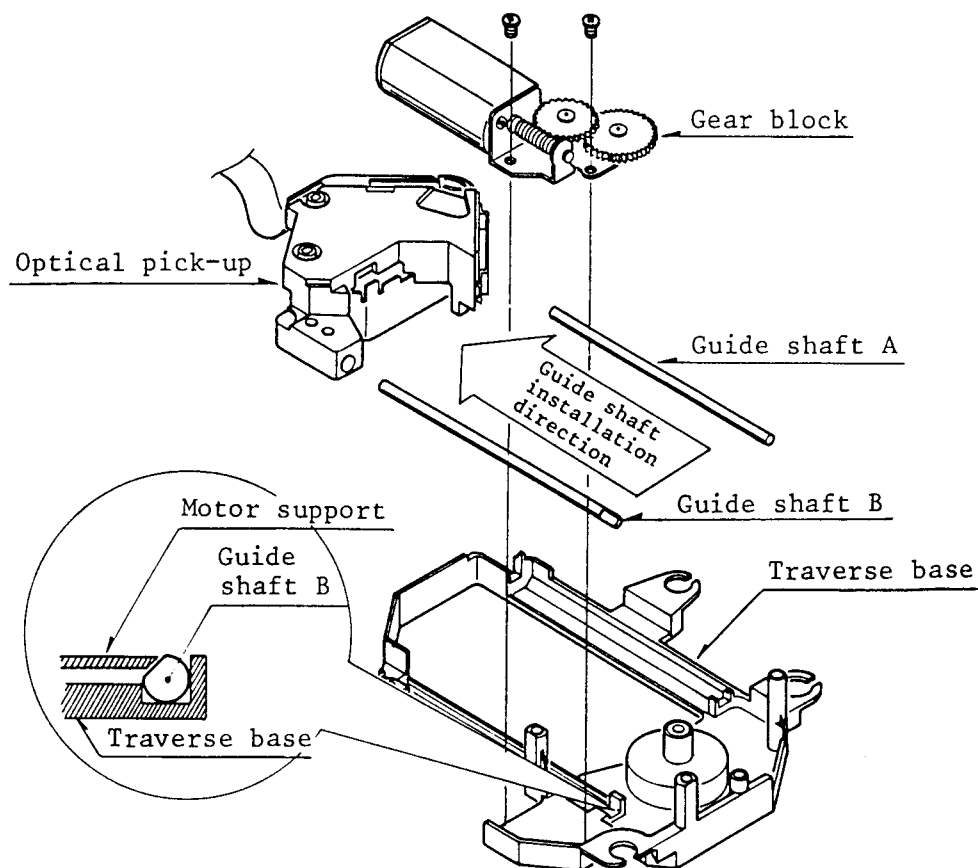

Fig. 3-7
- ② Ensure that the D cut of the guide shaft B is installed as illustrated in Fig. 3-7.